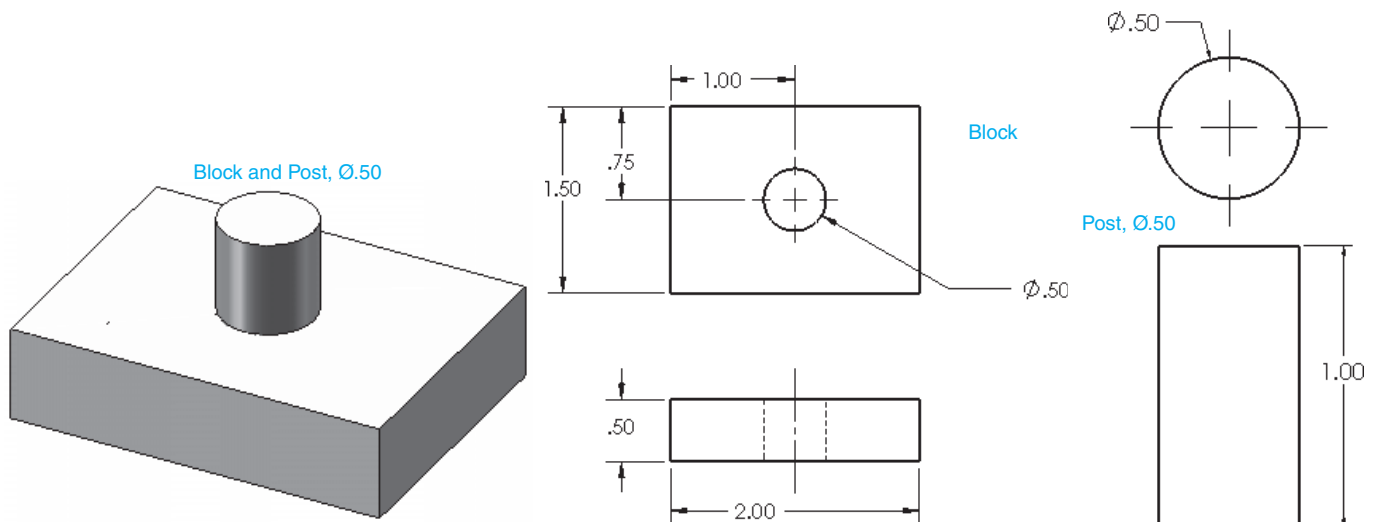
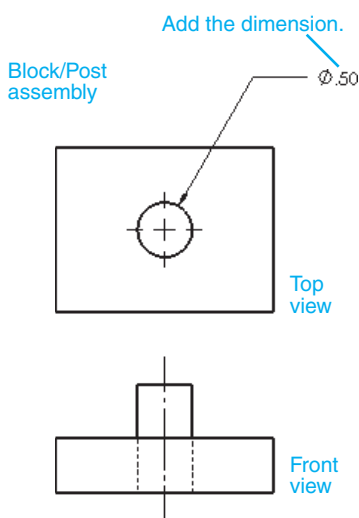

Figure 8-26
Figure 8-27
Figure 8-26 shows a block and post. Figure 8-27 shows a drawing containing a front and a top orthographic view of the block and post assembly.
- 1 Draw the block and post and create an assembly drawing as shown in Figure 8-26.